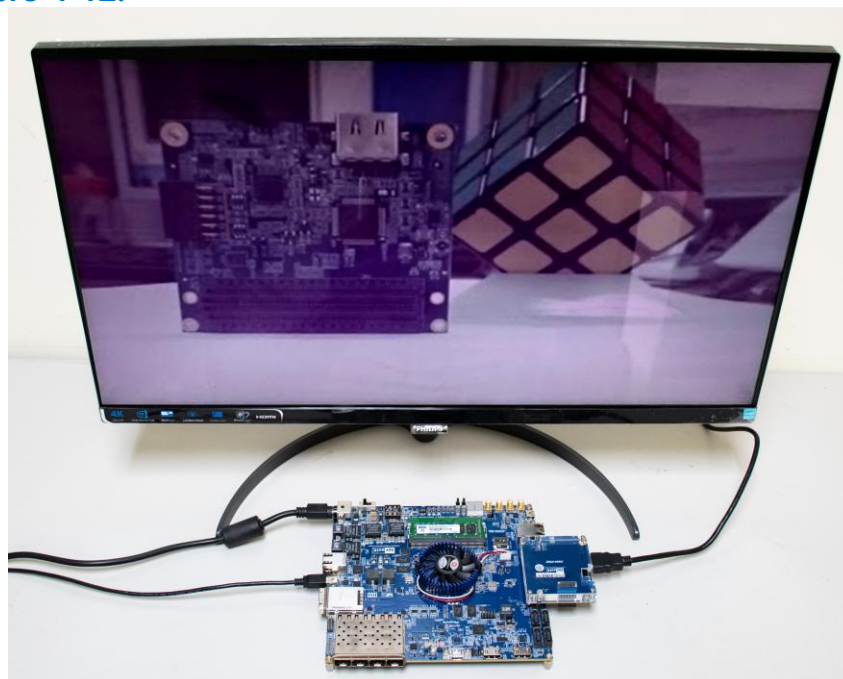

Figure 4-12 HAN demo hardware setting up
As shown in Figure 4-12.
- Plug D8M-FMC onto HAN (FMC Port), connect HDMI monitor to HDMI port of D8M-FMC see Figure 4-12.